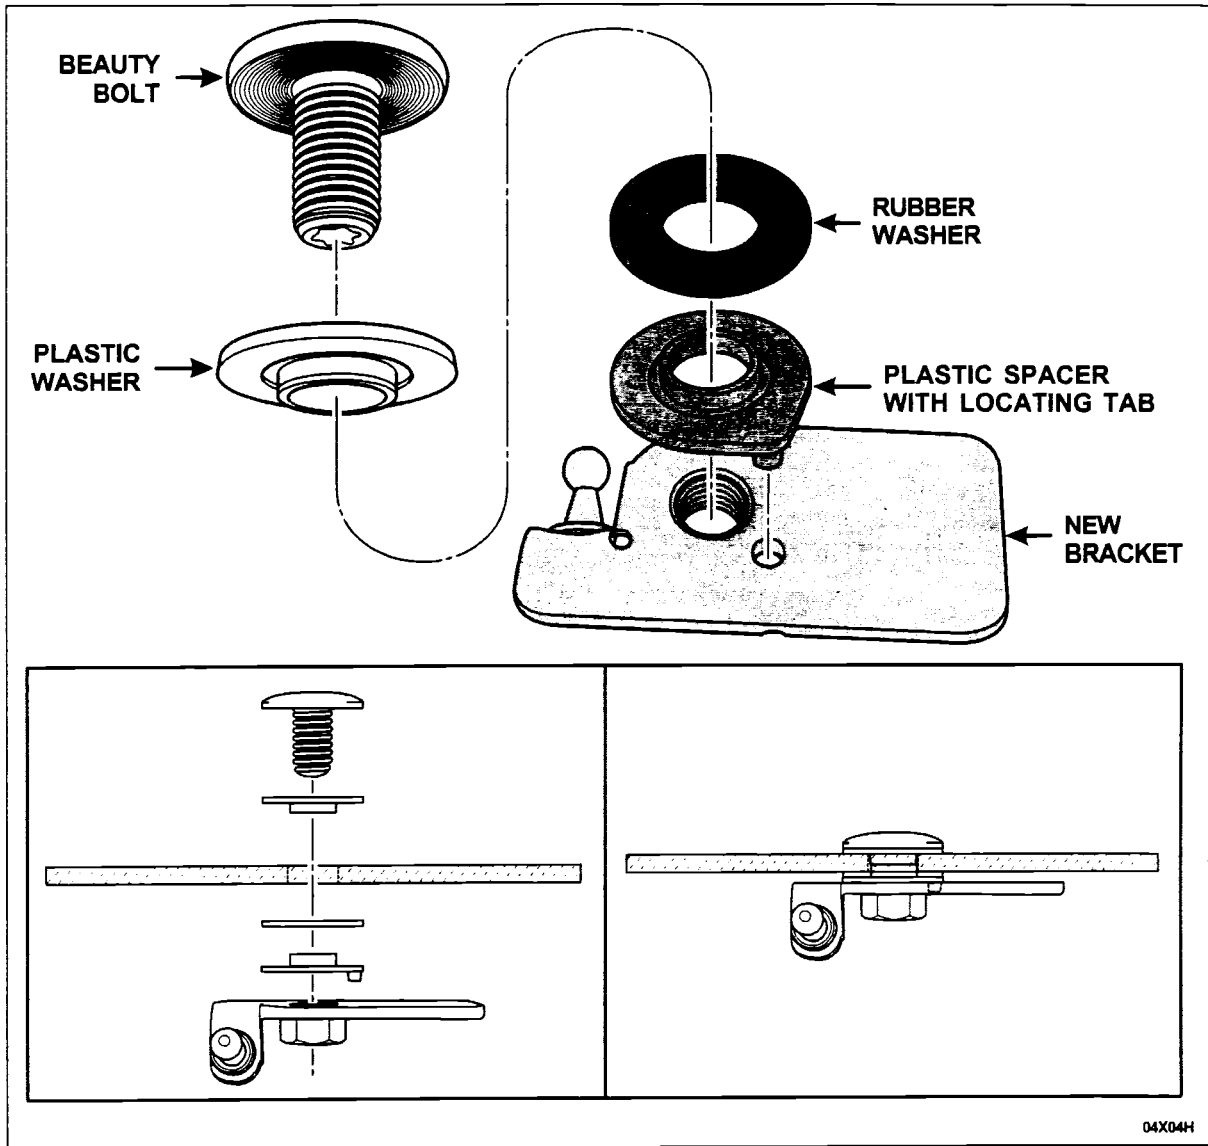

FIGURE 8
8. Install the plastic spacer (with locating tab) and rubber washer onto the **new** brackets as shown in Figure 8. Also, place a plastic washer onto the beauty bolt with the collar toward the glass.